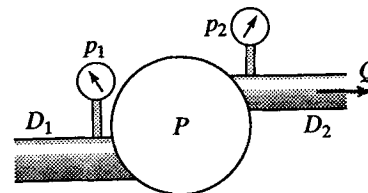

Figure P15.1
- 15.1 The diameter of the discharge side of a pump is 100 mm, and that of the intake pipe is 120 mm (Fig. P15.1). The pressure gage at discharge reads 240 kPa and the pressure gage at intake reads 60 kPa. If  $Q = 45$  L/s of water and the pump efficiency is 0.82, find the power delivered to the pump by the drive shaft. The intake of the pump is 350 mm below the discharge side. Neglect the effects of pre-rotation in the entry pipe and assume smooth flow at discharge from the pump.